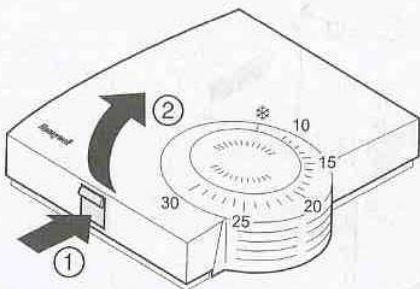

Fig. 11: Removing the housing cover
- ▶ Remove the housing cover of the room unit HCW 80 (see Fig. 11: Removing the housing cover).